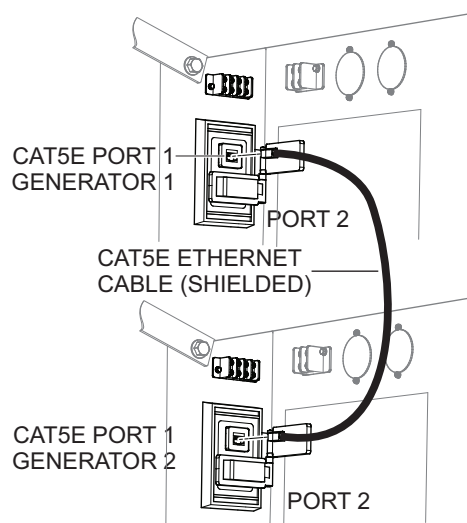

Figure 6. Ethernet Cable Connection
1. Connect a CAT5E Ethernet cable (shielded) between port 1 on both generators as shown in Figure 6.